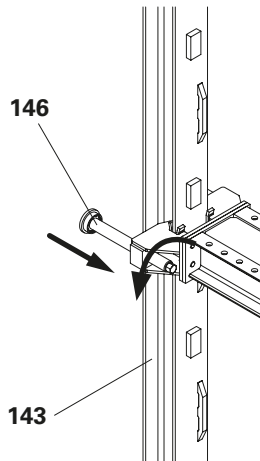

Fig. D2.03
1. Retract the Pressure Point Spindle M42 ACS (146). (Fig. D2.03)